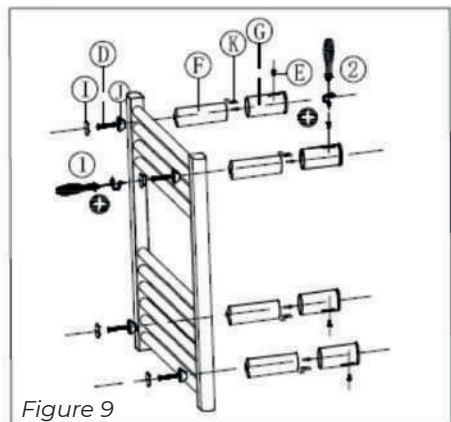

Figure 9
**8.** Slide the square nuts into the designated slots of the inner wall brackets (Figure 9, pos. K).
**9.** Attach the four inner wall brackets (Figure 9, pos. F) to the outer wall brackets with small screws (Figure 9, pos. 2) using a Phillips screwdriver.
**11.** Screw and tighten the device with four large screws (Figure 9, pos. D) to the wall bracket (Figure 9, pos. J) using a Phillips screwdriver (Figure 9, pos. 1).
**12.** Place the four sealing caps (Figure 9, pos. I).